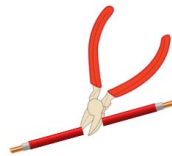

Fig. 2.5 Cut the wire with the help of a wire stripper
Step 2 – Cut the required length of wire using a wire cutter and then strip the insulation of ends using a wire stripper. Figure 2.5 illustrates the wire stripper is cutting the wire into two pieces.